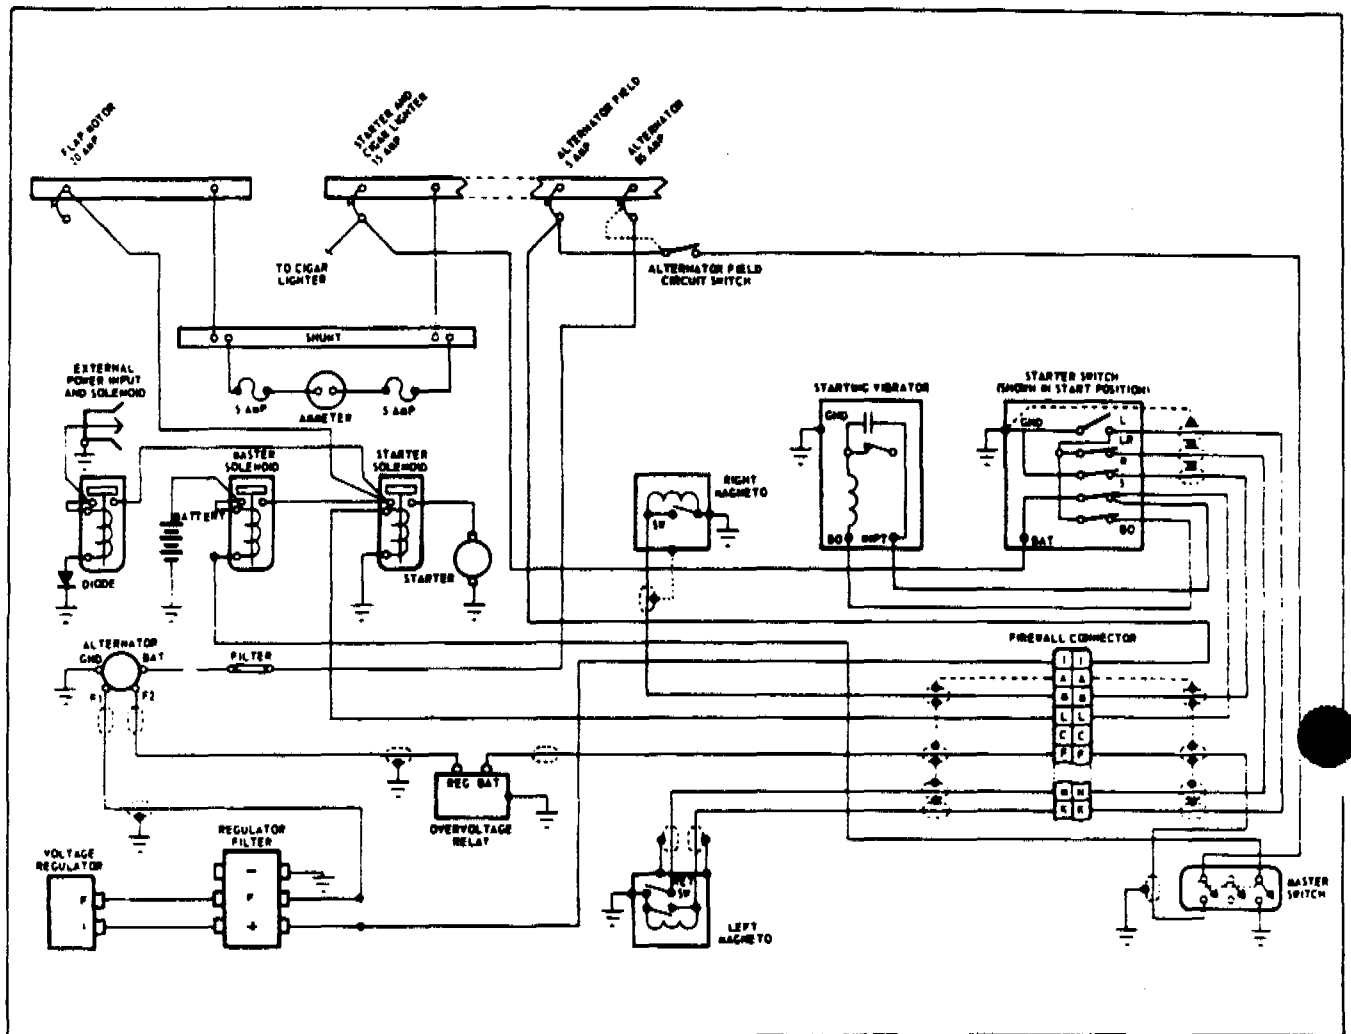

Figure 9-27b. Alternator and Starter Wiring System Schematic (Prestolite)
9-61c. Checking Alternator System. The ammeter is equipped to check the electrical output-input of the battery. Should the alternator show no output on the ammeter, check the alternator output and field thermo circuit protectors, and ammeter line fuses. If a further check of the ammeter shows no output from the alternator, check the alternator system. (Refer to Figure 9-27b.)
- f. To check the alternator output circuit, connect a voltmeter or 12 volt test light to the battery lead and to ground. If a reading of approximately 12 volts registers on the voltmeter or the test light lights, the battery circuit is operational. Should there be no indication of voltage, trace back through the output circuit until voltage is indicated. (Refer to Figure 9-27b.) A component that allows no voltage to pass through it should be replaced.
Always refer to the wiring diagram, Figure 9-27b, when installing the alternator or testing the alternator.